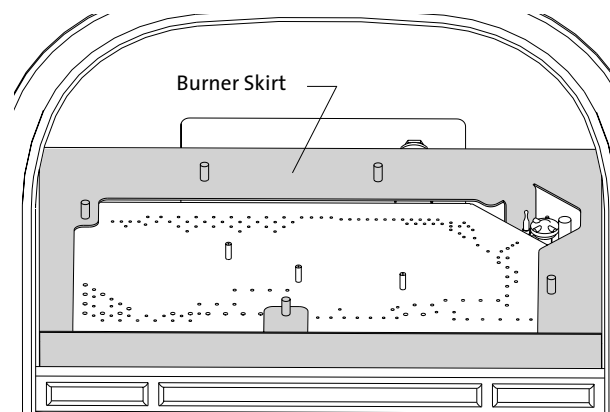

Figure 11. Lift and remove the Burner Skirt from within the firebox.
5. Lift out the Burner Skirt shown in fig. 11.